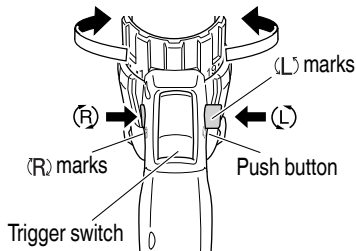

Fig. 9
The bit rotates clockwise (viewed from the rear side) by pushing the R-side of the push button. The L-side of the push button is pushed to turn the bit counterclockwise (See Fig. 9). (The (L) and (R) marks are provided on the body.)